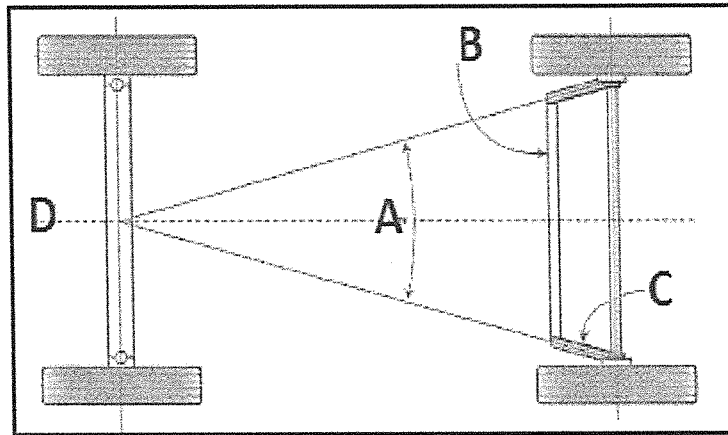

FIGURE 1
- 3.2 FIGURE 1 shows the steering geometry of a vehicle. Label the indicated parts by writing only the words(s) next to the letter A–D in your ANSWER BOOK.